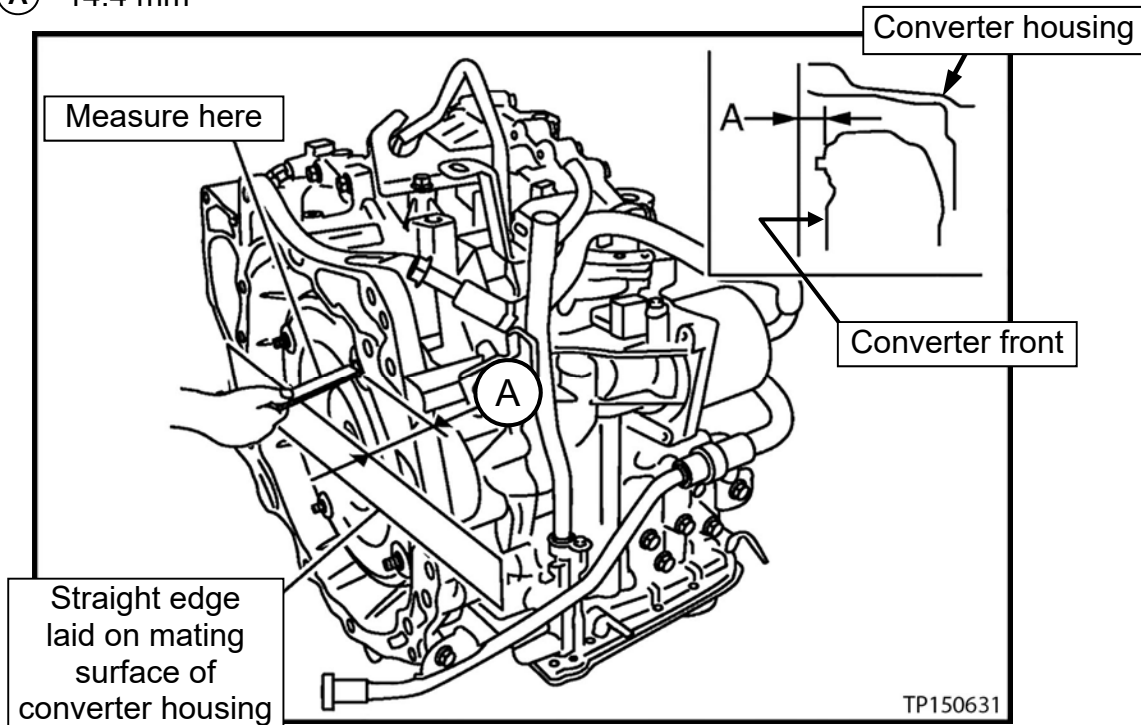

Figure 151
- Verify the torque converter is installed at the proper depth (see Figure 151).
- (A) = 14.4 mm